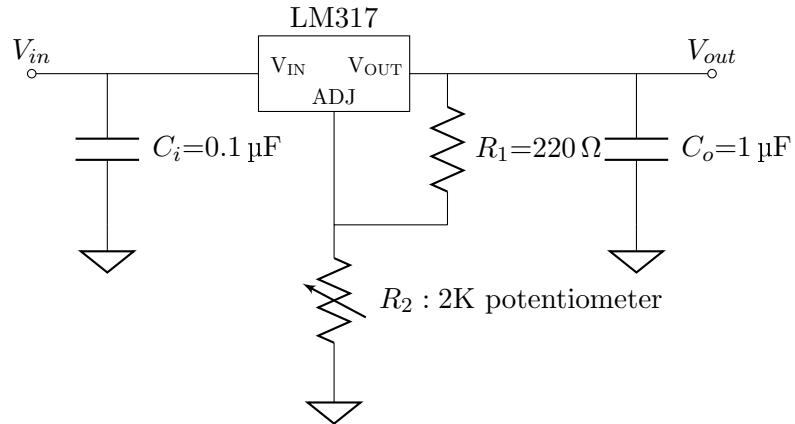

Figure 8: Schematic of the voltage regulator circuit using LM317.
1. Using Fig. 8 as a reference, build the regulator circuit on the breadboard. You should be able to find the LM317 pinout diagram from its datasheet, which you find from online. *As a general suggestion, it is important to keep your circuit well laid out and keep the connecting wires as short as*